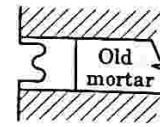

Fig. 5.20.1. Beaded pointing.
- i. This type of pointing is shown in Fig. 5.20.1 and it is formed by steel or iron rod with a concave edge.